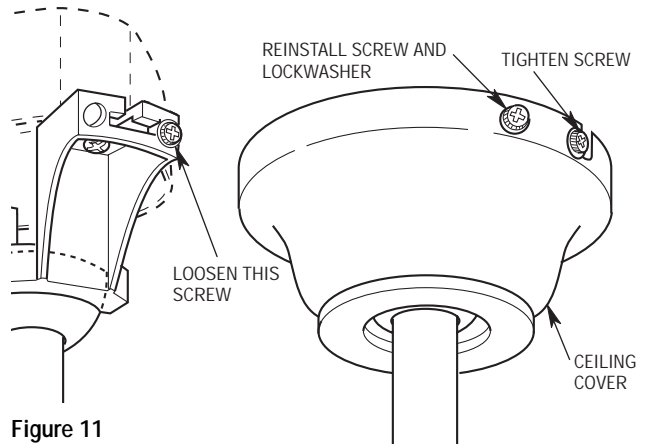

Figure 11
1. Lift the ceiling cover up to the hanger bracket. Engage the slots in the ceiling cover with the loosened screws in the bracket and turn the cover counterclockwise (Figure 11). Be sure that the lockwashers are between the screw heads and the ceiling cover.